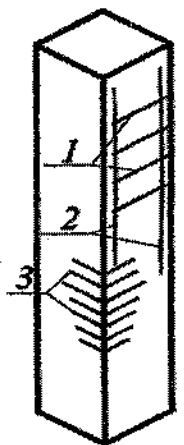

Fig. 2
b) For the shown corner column in Fig. 2, it is required to identify the mentioned cracks, and provide the reasons for each one.
c) = By knowing the column cross section is $400 \times 400 \text{ mm}^2$ for Fig. 2, what is the ultimate capacity (P_u)? NOTE: $f_{cu} = 35 \text{ N/mm}^2$, $f_y = 350 \text{ N/mm}^2$